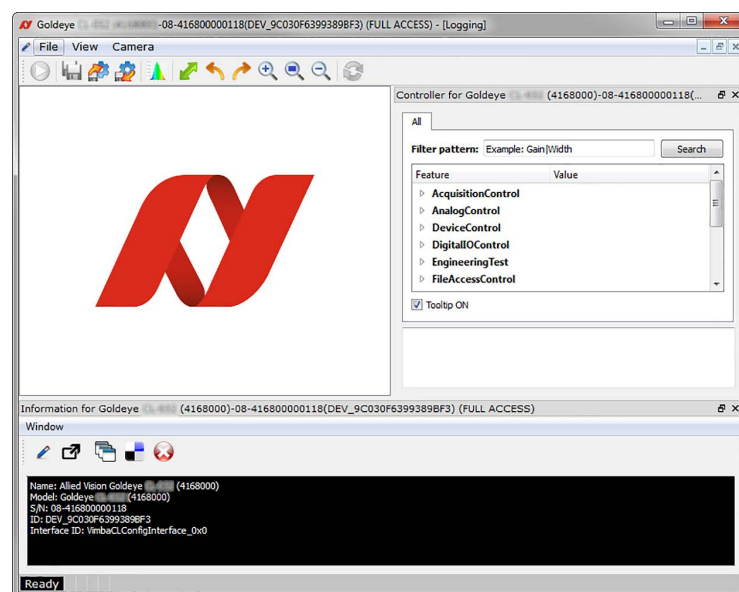

Figure 66: Vimba Viewer window
4. A new camera window appears, as shown in Figure 66 on page 249. This camera window consists of the following components:
The controller window is displayed in the top right section of the **Vimba Viewer** window, refer to Figure 66 on page 249. It is used to configure the camera frame rate, exposure time, pixel format, and much more. A detailed explanation of camera controls is available in the Goldeye G/CL Features Reference.